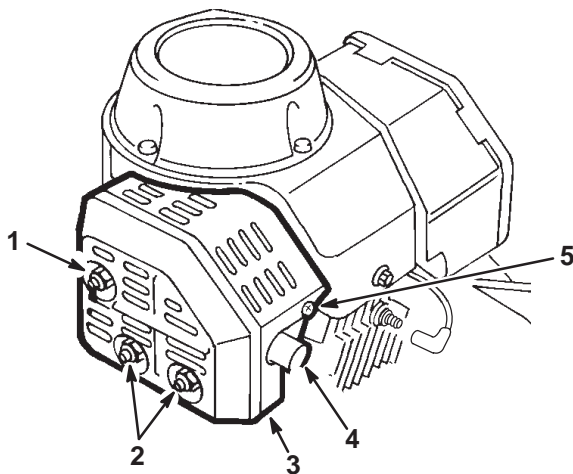

Figure 12
1. Use a hardwood scraper to remove the carbon from the end of the muffler pipe (Fig. 12).
2. Remove the Phillips screw, two hex nuts and lock washers and remove the muffler cover and attached muffler cover extension from the engine (Fig. 12).
3. Remove the hex head screw, then remove the muffler from the engine (Fig. 12).
7. Reinstall the muffler onto the engine, then reinstall and tighten the hex head screw (Fig. 12).
8. Reinstall the muffler cover and muffler cover extension onto the muffler, then reinstall and tighten the Phillips screw, and the two lock washers and hex nuts (Fig. 12).